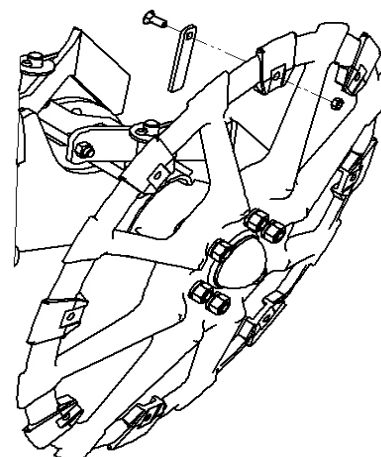

Figure 46: Adding or Removing Rim Mounted Filler Tabs
2. Fasten with a bolt and nut as shown in Figure 46.